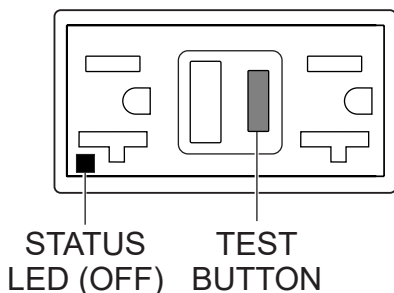

Figure 64. GFCI Receptacle (OFF)
4. Press the **TEST** button (Figure 64) on the GFCI receptacle and verify that the status LED turns **OFF**.